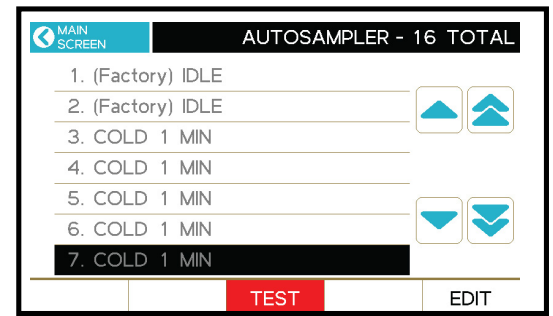

Figure 6
- Use the touch screen to select the position to be loaded (fig. 6).